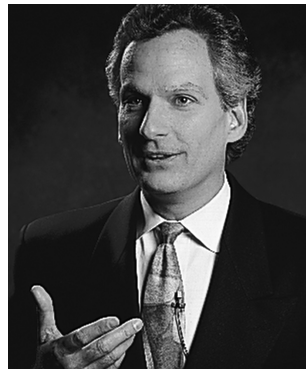

Figure 16:
**Place the microphone near the top of the chest, above the ear, or in the hair line** (see figure 16). A common mistake is to place the mic near the throat, but this will lead to an unnatural sound due to a "shadow" created by the chin that will block high frequencies from reaching the microphone.